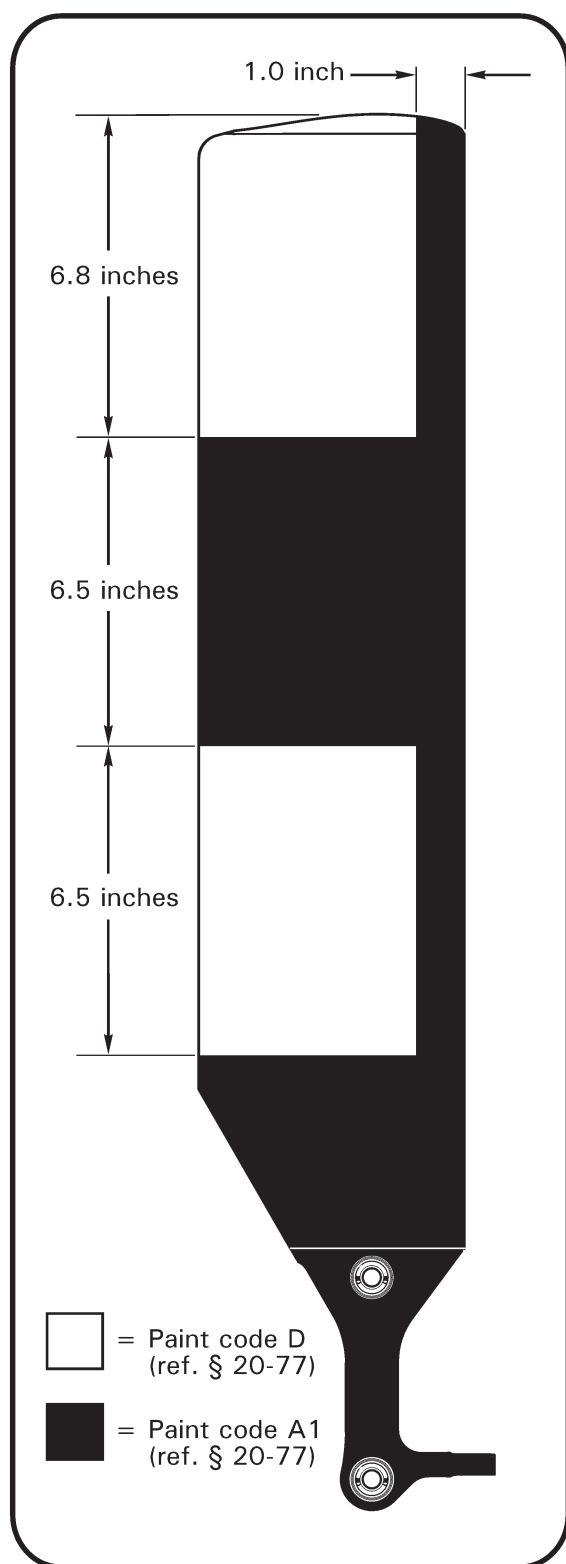

FIGURE 64-6 F029-1 BLADE PAINT SCHEME
4. Refer to Figure 64-6. Apply masking to bearings and white trim stripes. Apply black paint to black trim stripes and root fitting.
Preferred blade condition is with fully painted leading edge. Use two coats of Desoprime CA7502 epoxy primer (or equivalent). Scuff primer prior to applying second coat. Use Imron polyurethane enamel or equivalent paint. Refer to § 20-77 for specific paint codes. Blades with striped leading edges may be painted with solid black leading edge (ref. Figure 64-6) if desired for ease of application.